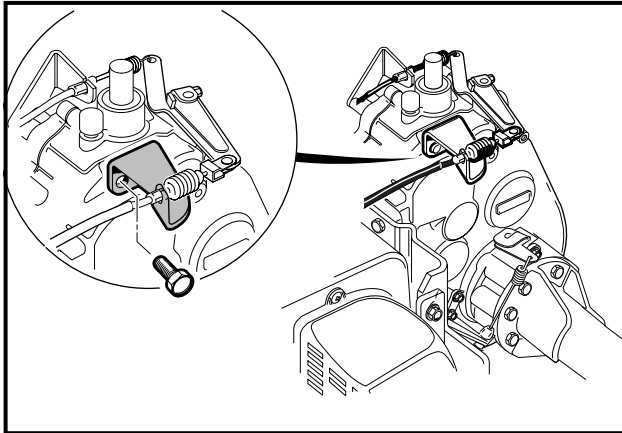

Figure 16-36 Governor Cable Bracket
17. Remove screws securing the governor cable bracket to transaxle (**Figure 16-36, Page 16-15**).